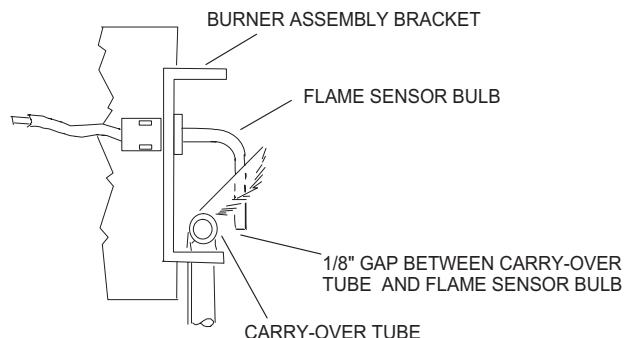

FIGURE 20 - PROPER FLAME ADJUSTMENT
1. Limit Control (LS) - This control is located inside the heat exchanger compartment and is set to open at the temperature indicated in the Gas Heat Limit Control Setting Table 52. It resets automatically. The limit switch operates when a high temperature condition, caused by inadequate supply air flow occurs, thus shutting down the ignition control and closing the main gas valve and energizing the blower.
2. Centrifugal Switch (CS) - If the draft motor should fail, the centrifugal switch attached to the shaft of the motor prevents the ignition control and gas valve from being energized.
4. Flame Sensor Rod / 100% Ignition Control Lock-Out - The flame rods and controls are located per Proper Flame Adjustment Figure 20. If an ignition control fails to detect a signal from the flame sensor indicating the pilot flame is properly ignited, then the main gas valve will not open. It will continue to try and ignite the pilot for a maximum of 85 seconds, then if the pilot flame is not detected, the ignition control will lock out furnace operation until 24V power is removed from the module either at the unit or by resetting the room thermostat.
5. Rollout Switch (RS) - This switch is located in the burner vestibule. In the event of a sustained main burner flame rollout, it shuts off the ignition control and closes the main gas valve.